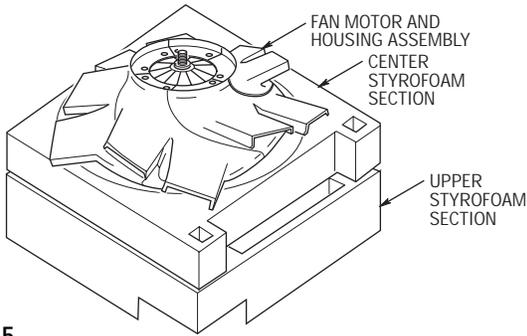

Figure 5
- 12. Position the center styrofoam section on the upper section, and then position the fan motor and housing on the center section so that the bottom of the motor is facing you (Figure 5). The styrofoam sections will hold the assembly while you perform the following steps.